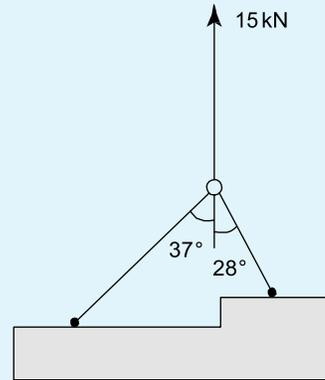

Figure 4.22
2. A two-legged sling and hoist chain used for lifting machine parts is shown in Figure 4.22. Determine the forces in each leg of the sling if parts exerting a downward force of 15 kN are lifted. [9.96 kN, 7.77 kN]